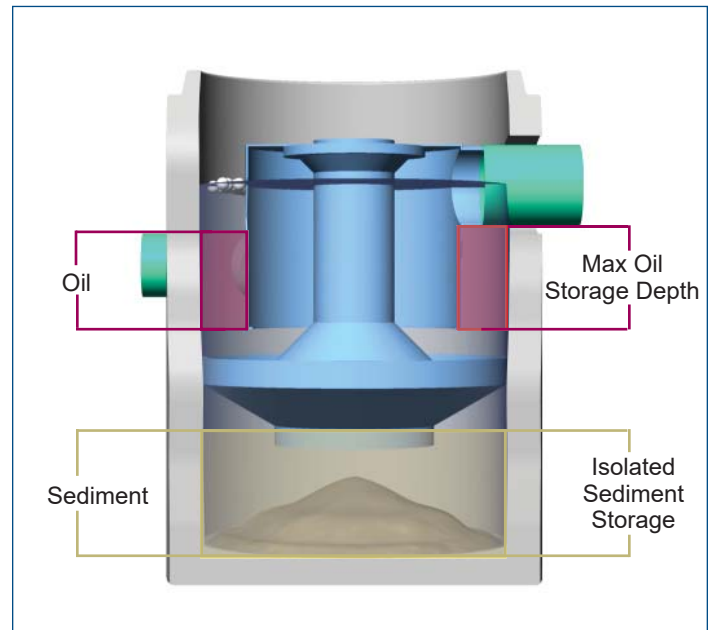

Fig.1 Pollutant storage volumes of the Downstream Defender®.
1. Refer to Downstream Defender® Clean-out Detail (Fig. 1) for measurement of depths.